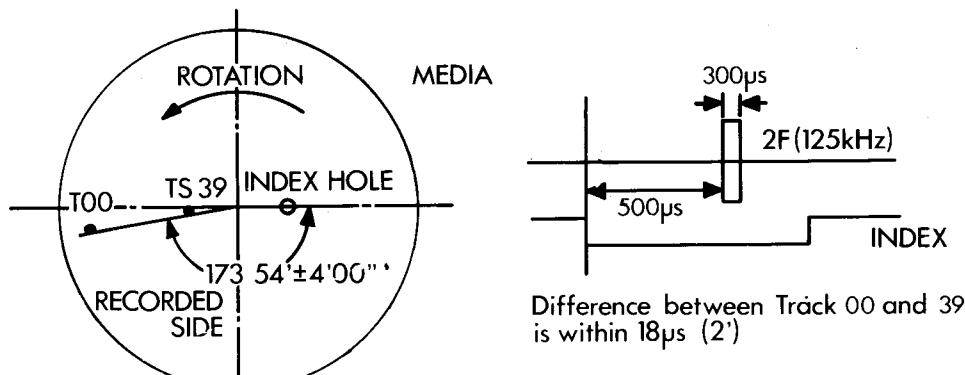

Fig. 2 Waveform of T39 (Index pattern - Radial alignment)
2. Adjustment of the index burst by use of Track 39 (Fig. 2).	<input type="radio"/>
- 4) Adjust OO Sensor (8 on Fig. 6) so that scope shows correct difference as Fig. 2.